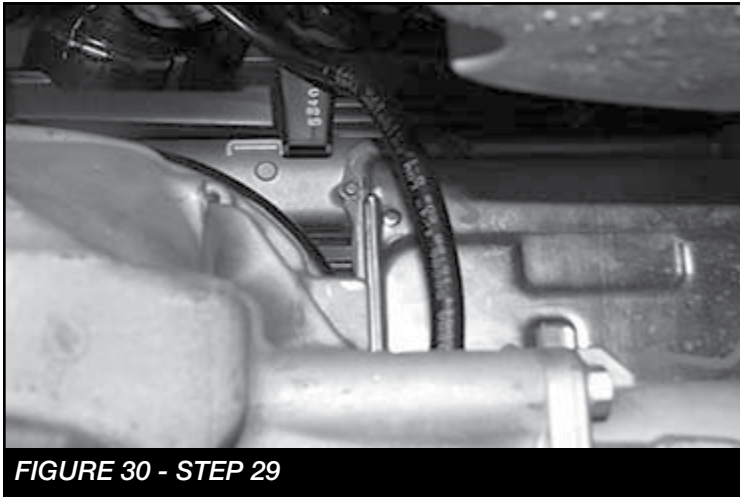

FIGURE 30 - STEP 29
29. Install the supplied 6" hose to the factory differential vent tube and back on to the differential. **SEE FIGURE 30**